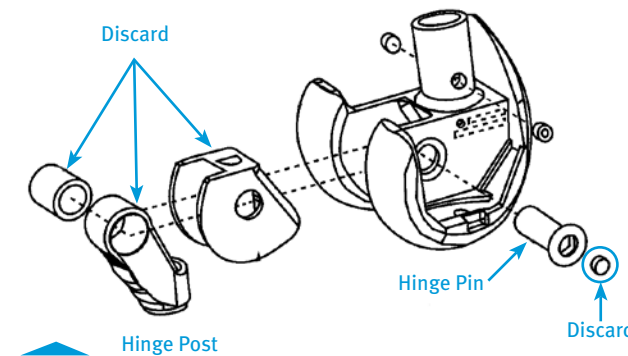

Fig. 141
- Remove and discard the Hinge Post and Polyethylene Box Insert (Fig. 141).